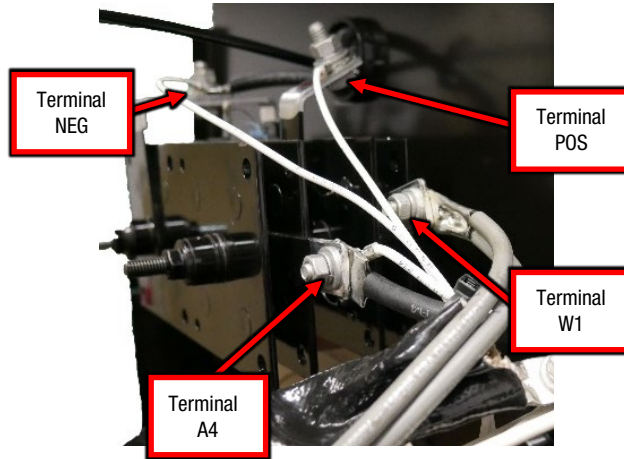

Figure F.3
- B.2. Perform the measurements in Test Table 2 below, refer to Figure F.3 for test point locations.